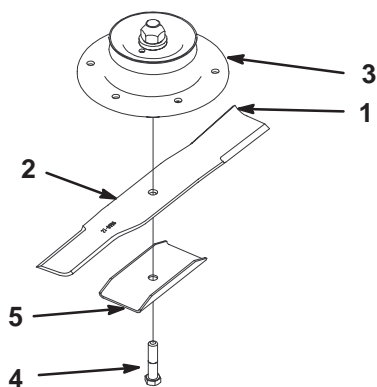
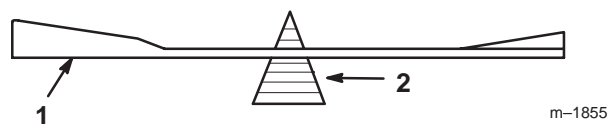

Figure 43
Figure 45
1. Hold the blade end using a rag or thickly-padded glove. Remove the blade bolt, blade stiffener and blade from the spindle shaft (Fig. 43).
2. Check the balance of the blade by putting it on a blade balancer (Fig. 45). If the blade stays in a horizontal position, the blade is balanced and can be used. If the blade is not balanced, file some metal off the end of the sail area only (Fig. 43). Repeat this procedure until the blade is balanced.
1. Install the blade onto the spindle shaft (Fig. 43).
Important The sail part of the blade must be pointing upward, toward the inside of the mower to ensure proper cutting (Fig. 43).
2. Install the blade stiffener and blade bolt (Fig. 43). Torque the blade bolt to 85–110 ft-lb (115–140 N•m).